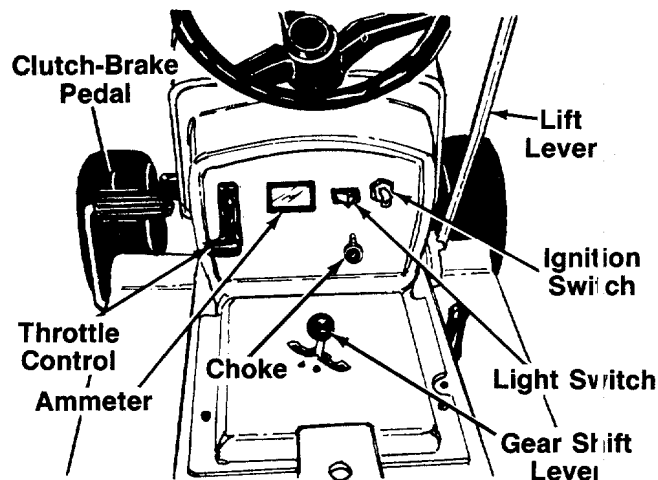

FIGURE 9.—Models 704 and 714 Shown
The throttle control is used to regulate the engine speed. To get maximum efficiency from cutting, the throttle should be in the FAST position when operating the mower. See figure 9.
The choke control is located on the dashboard and is operated manually. Details for the choke operation are covered in the separate engine manual packed with your unit. See figure 9.
The shift lever is located ^{IN THE CENTER} on the left side of the console and has three positions, FORWARD, NEUTRAL and REVERSE. See figure 9. The clutch-brake pedal must be depressed and the lawn tractor must not be moving when shifting gears. Do not force the shift lever. Release the clutch-brake pedal slightly to line up the shifting collar in the transmission. Then try to shift gears.
Turn the key to the START position to start the engine. When the engine is running, let the key return to the ON position. To stop the engine, turn the key to the left to the OFF position and remove it to prevent accidental starting. See figure 9.
Push the light switch to turn on the lights. The lights will only operate when the engine is running. See figure 9.
The ammeter registers the rate of battery charge or discharge. The ammeter will register on the discharging side when starting the engine. It should register on the opposite side (charging) when the engine is running in the fast position until the battery is completely charged. With a fully charged battery or with the engine idling, the ammeter will not show a charge. See figure 9.
The clutch-brake pedal is located on the left side of the lawn tractor. Depressing the clutch-brake pedal part way disengages the clutch. Pressing the pedal all the way down disengages the clutch and engages the disc brake. See figure 9.
4. Set the throttle control in the FAST position. See figure 9.
6. Turn the ignition key to the START position. When the engine is running, let the key return to the ON position. See figure 9.